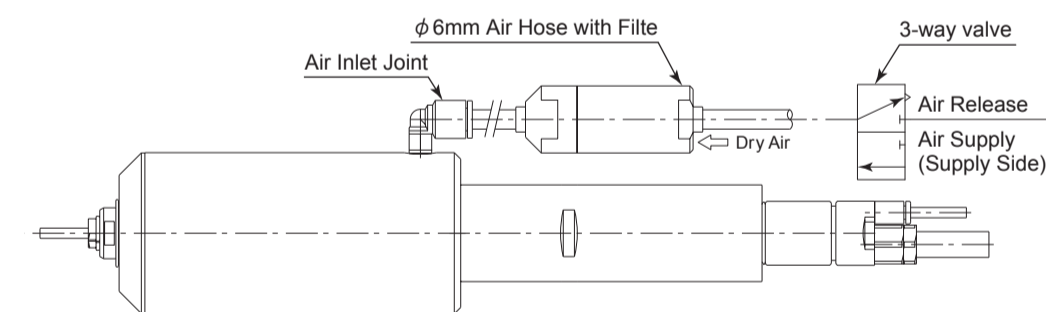

Fig. 3
- ① Connect the provided ϕ 6mm Air Hose with filter and 3-way valve to Air Inlet Joint shown in Fig. 3.
- ② Supply clean air from air compressor through air filter or air dryer to the 3-way valve at the set air pressure : from 0.55 - 0.6MPa (79.8 - 87psi).